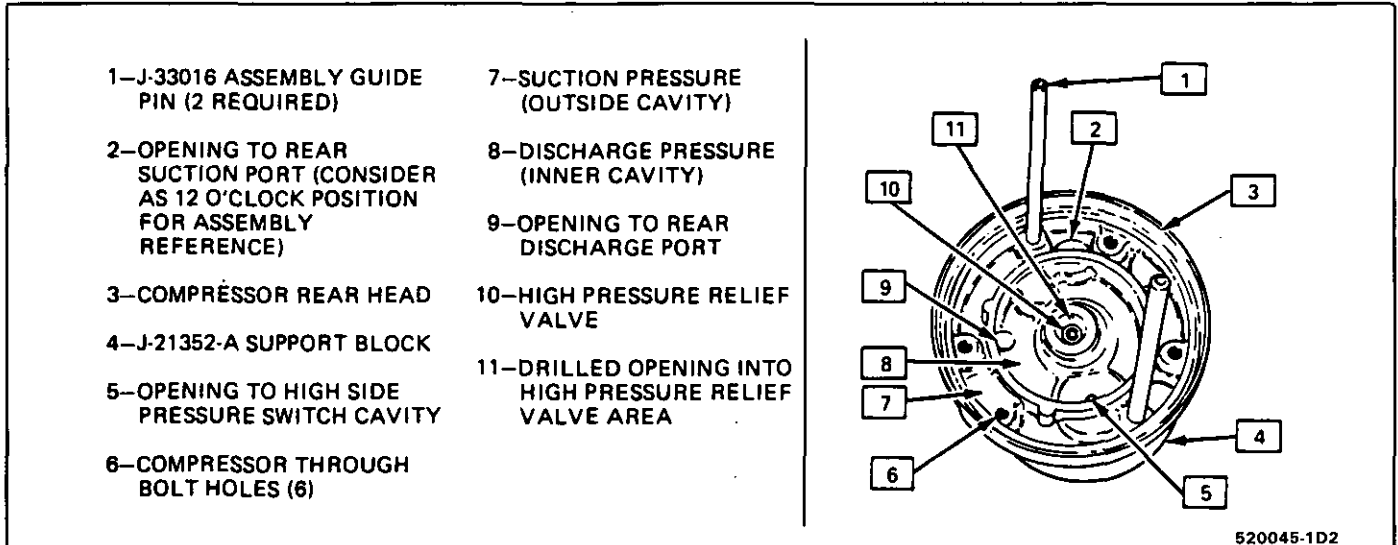

Fig. 44 Detail of Compressor Rear Head-Assembly Guide Pins Installed
The front head in Fig. 44 is assembled in the "standard" position and may differ 120° either direction. Assemble front head according to location marked before removal.
2. Place the compressor rear head on the support block as shown in Fig. 44. Install the two (2) J-33016 assembly guide pins into the mounting holes indicated.